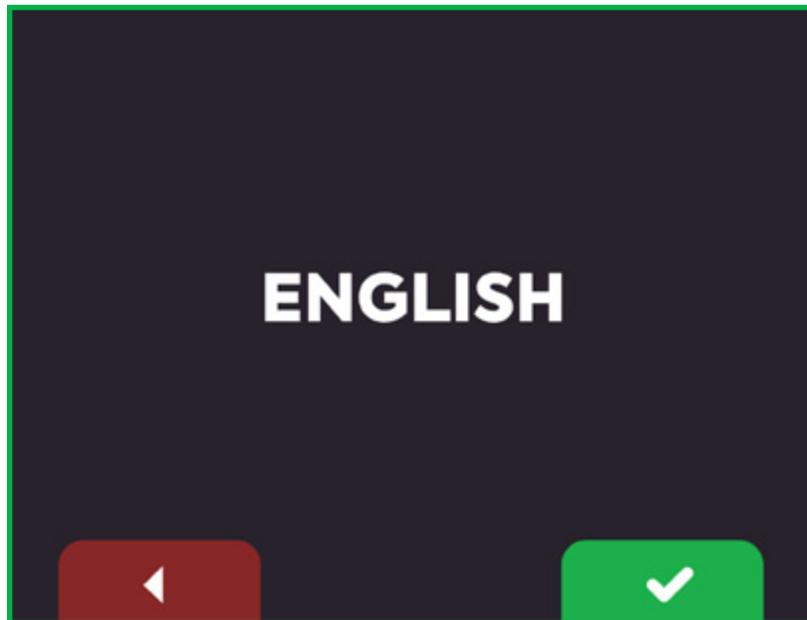

FIGURE 6
6. Select the required language. (Figure 6)